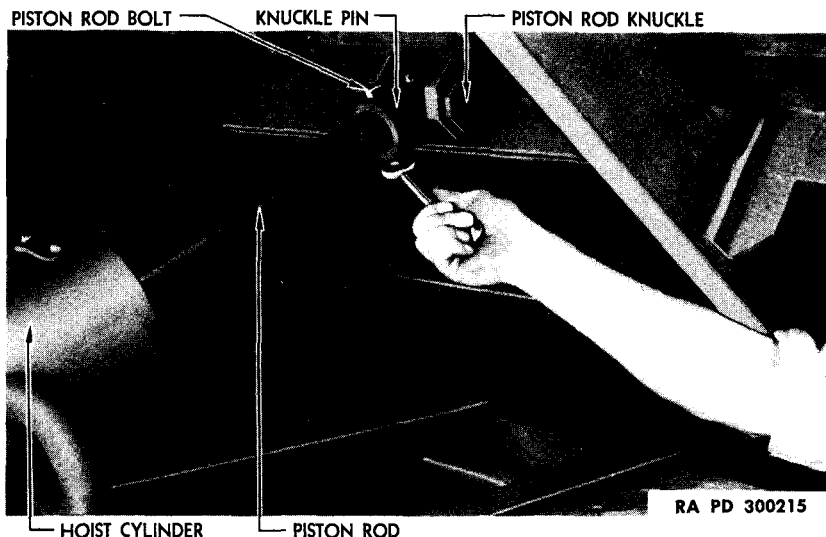

Figure 129—Removing Plunger Cross Head
(1) Raise body to maximum height and place safety blocking in position to hold the body.
(2) Place suitable bar or block under hoist cylinder on subframe.
(3) Remove piston rod knuckle bolt (fig. 129).
(4) Disconnect cylinder valve control rod.
(5) Disconnect drive line by removing universal yoke set screw